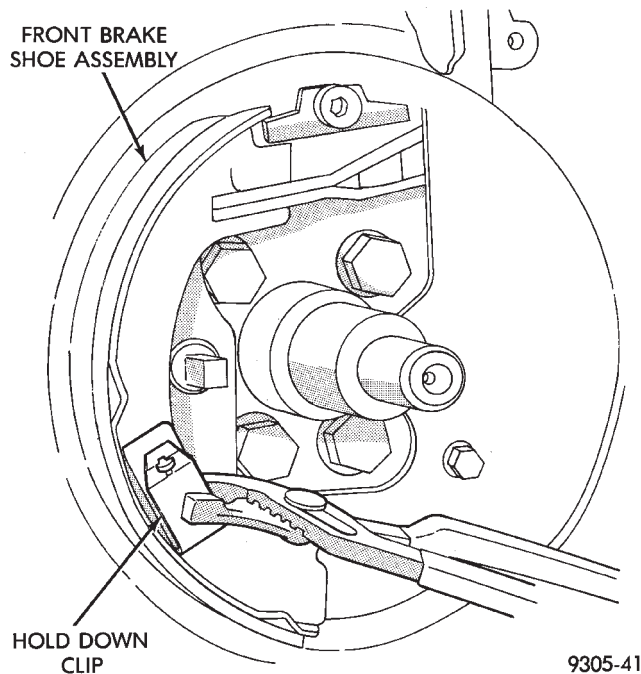

Fig. 5 Removing Front Holddown Clip And Shoe
(7) Remove outboard brake shoe, by prying the shoe retaining clip over raised area on caliper. Then slide the shoe down and off the caliper (Fig. 5).